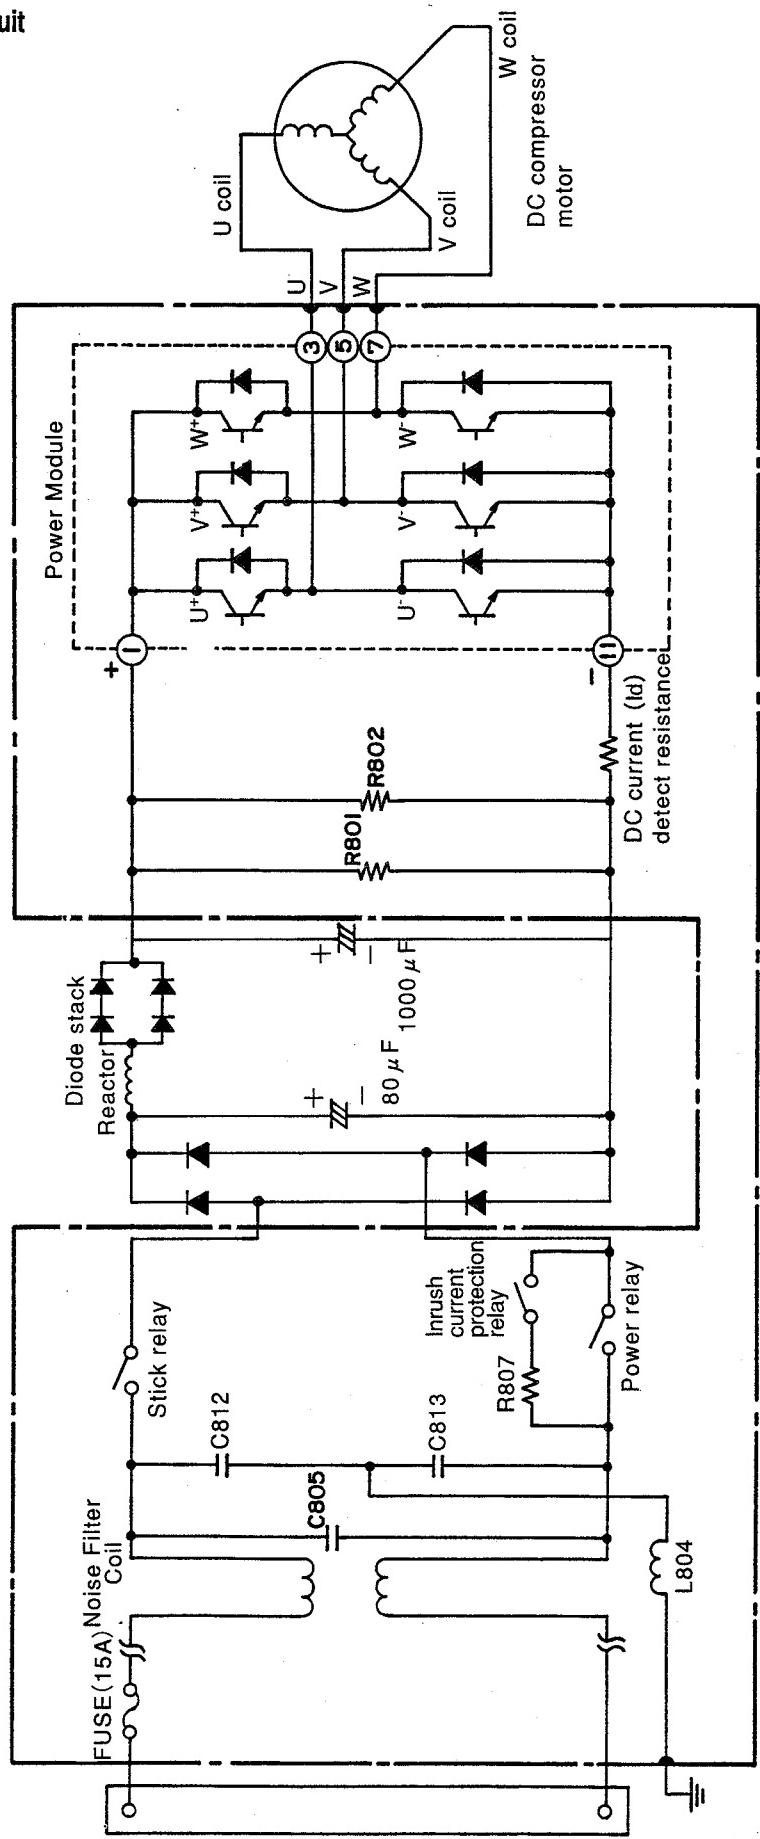

Fig. 3-1 Power module circuit (U^+ is ON, V^- is ON)
- Fig. 3-1 shows the power module and its peripheral circuits. The three transistors on the positive \oplus side are called the upper arm, and the three transistors on the negative \ominus side, the lower arm.
(* At point E: U⁺ is ON, V⁻ is ON (circuit in Fig. 3-1)
- Fig. 3-3 shows voltage waveform at each point shown in Figs. 3-1 and 3-4.
- When power is supplied U⁺ → U⁻, because of that U⁺ is chopped, current flows as shown below; ②
- When U⁺ transistor is ON: U⁺ transistor → U coil → V coil → V⁻ transistor → DC current detection resistor → Point ② (Fig. 3-1)